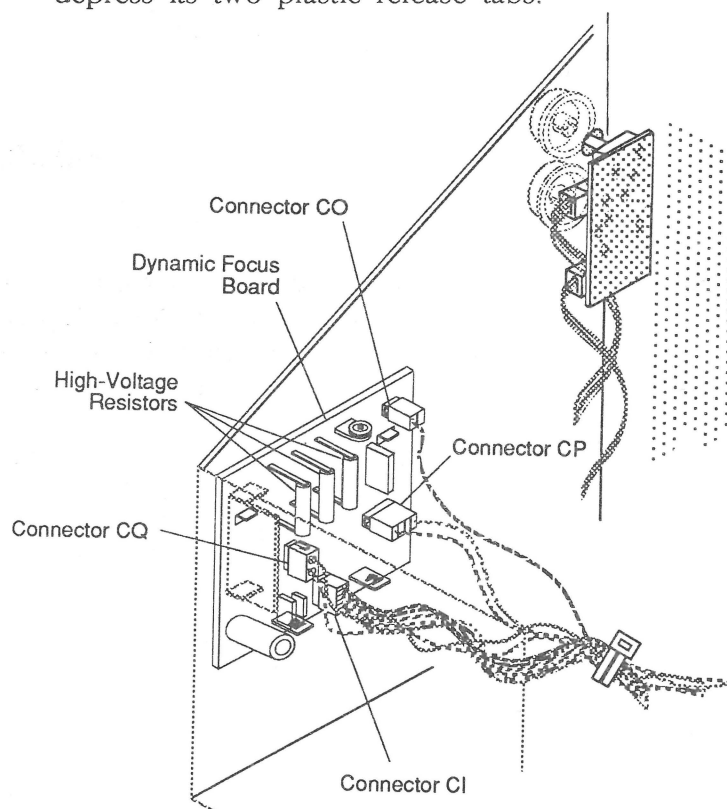

FIGURE 11
WARNING: When removing connectors from the dynamic focus board, be careful not to touch resistors R517, R518, or R520 (Figure 11). These are high-voltage resistors.
3. Disconnect the following connectors from the dynamic focus board (Figure 11):